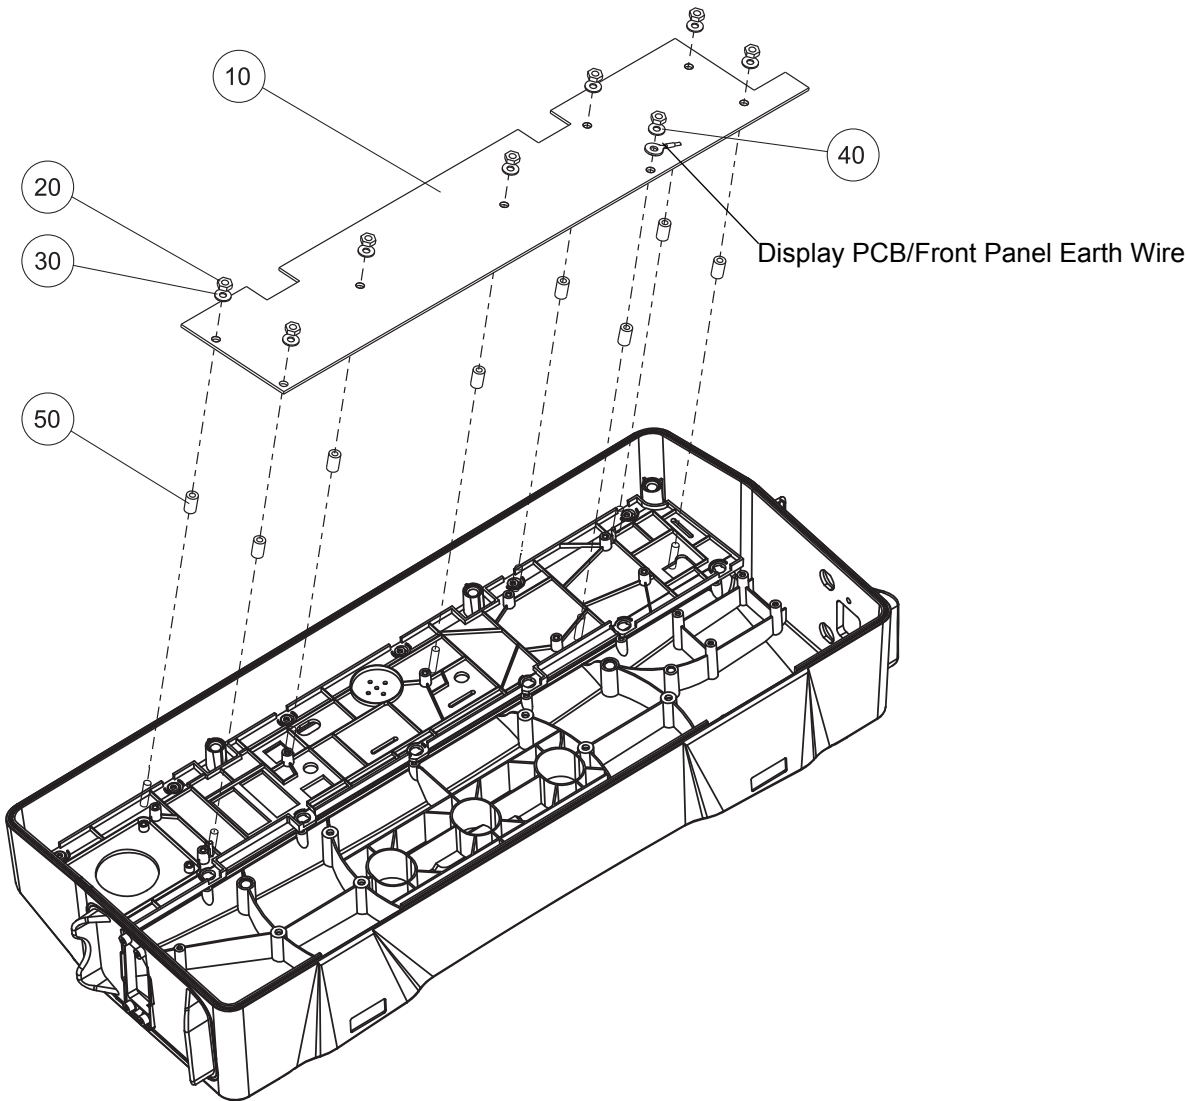

Figure 15 - Replacing the Display PCB
- 21.1 Install spacers (Fig 15, Item 50) and display board PCB (Fig 15, Item 10) onto the front panel.
- 21.2 Install the display PCB/front panel earth wire on to the correct stud and secure with a nut and washer (Fig 15, Items 20 and 40).
- 21.3 Install the remaining nuts and plastic washers (Fig 15, Items 20 and 30).
- 22.3 Remove the spacers (Fig 15, Item 40, 50 and 60) from the Display Board PCB (Fig 15, Item 30).
- 23.4 Fit the spacers (Fig 15, Item 40, 50 and 60).